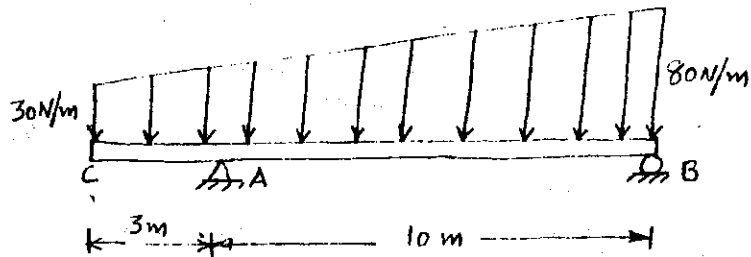

Fig.4.
- III Draw the Shear Force and Bending Moment diagrams for the loaded beam shown in Fig.4. (20)